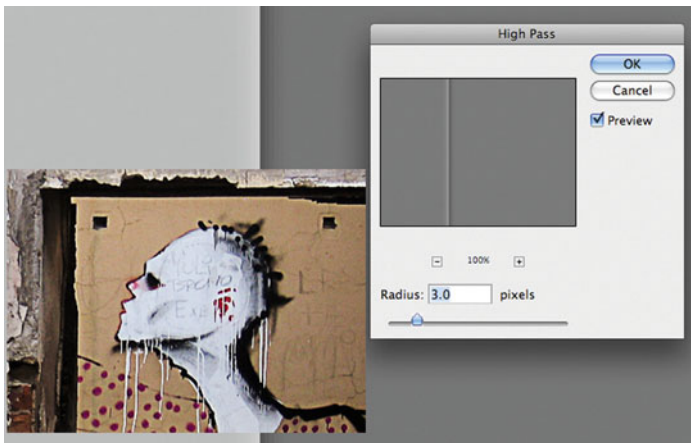

FIGURE 15.27 Image and artificial edge at 200% with the effects from the shown Photoshop High-Pass Filter settings.
4. Select the desired **Radius**, depending on the size of the image (anywhere from 0.3 to 5.0), as in Figure 15.27.